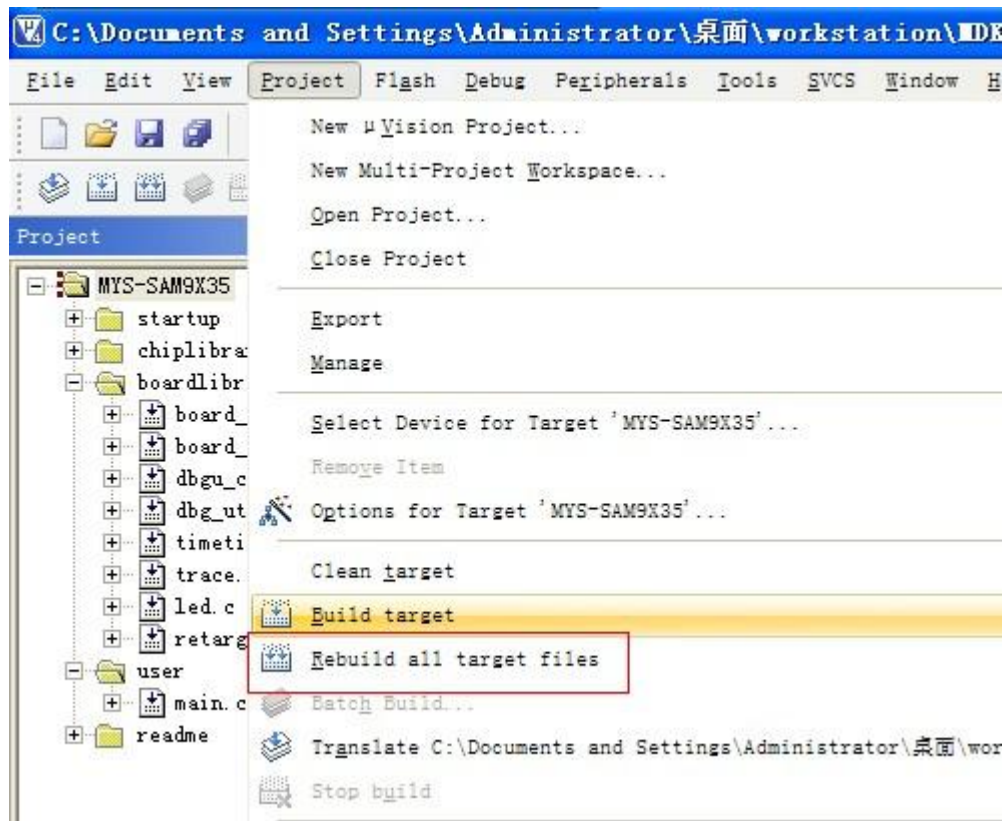

Figure 3-5
(5) “Select menu “Project” -> “Rebuild all target files” to rebuild project, as shown in figure 3-5: